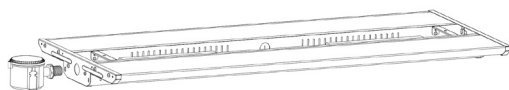

Figure 9
- b) Open the side cover knock-out and connect the wiring as per sensor instructions. (Fig. 9)